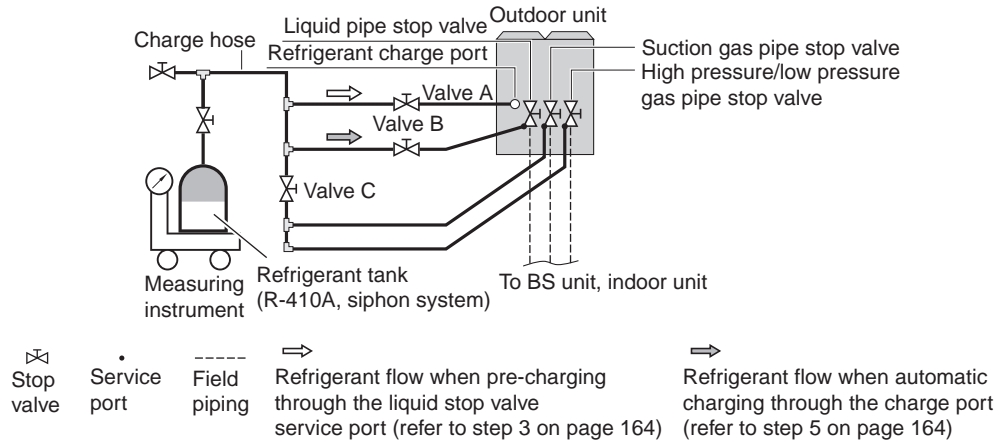

figure 23
- Open valve B (the valves A and C, the liquid pipe, the suction gas pipe and the high pressure/low pressure gas pipe stop valves must be left closed) and charge the refrigerant in liquid form via the liquid pipe stop valve service port. (See figure 23)
- After pre-charging, perform the refrigerant charge operation as shown below and charge the remaining refrigerant of the additional charging amount through valve A. (See figure 23)